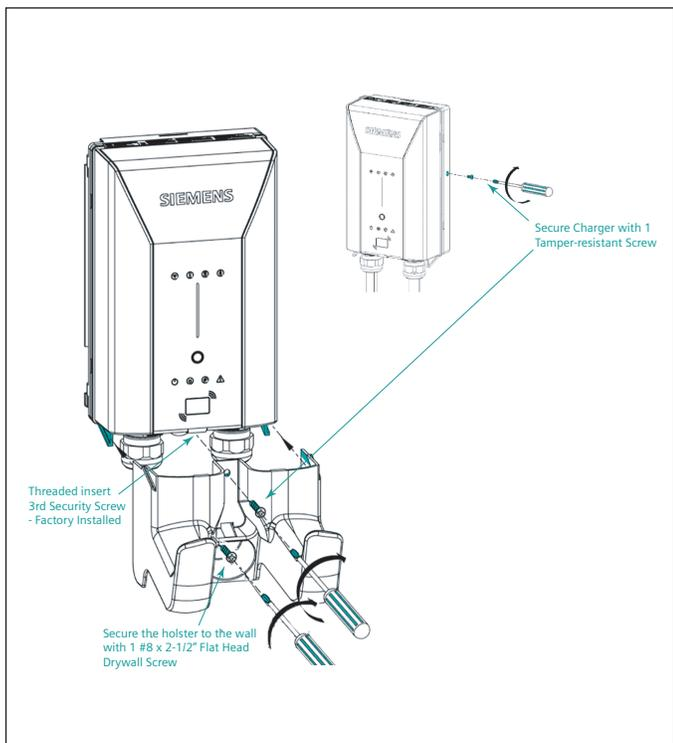

Figure 5. Secure the charger and mount the holster
3. Standard installation (Figure 5) – Drill pilot holes and use the kit-supplied lag screw, #8 x 2-1/2" drywall screw, to secure the holster to the wall stud.